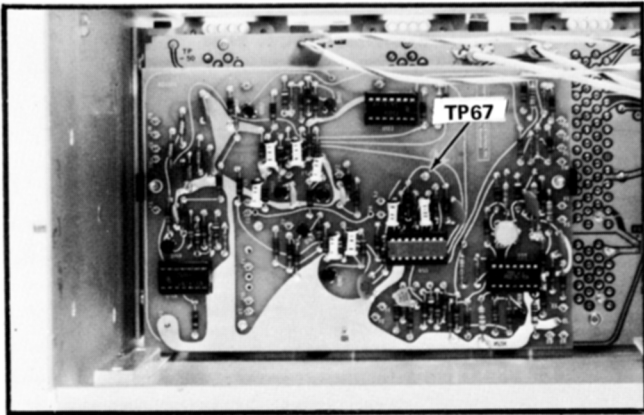

Fig. 2-4. Location of TP67 on Logic board (shown with power unit removed).
- b. Connect the probe tip to TP67 (see Fig. 2-4).